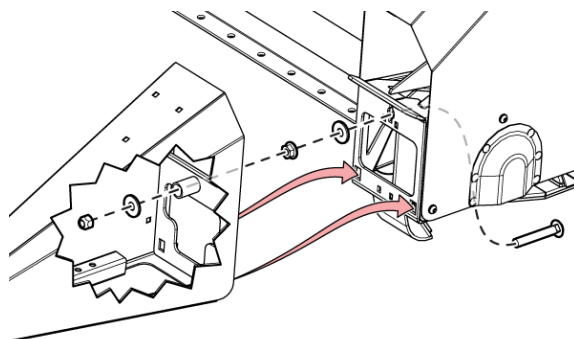

Fig. 35 - Install Crop Divider
Ensure the crop dividers are properly installed & free from material buildup. (See Fig. 35 on page 37)
- ☐ Ensure the crop dividers are properly installed & free from material buildup. (See Fig. 35 on page 37)